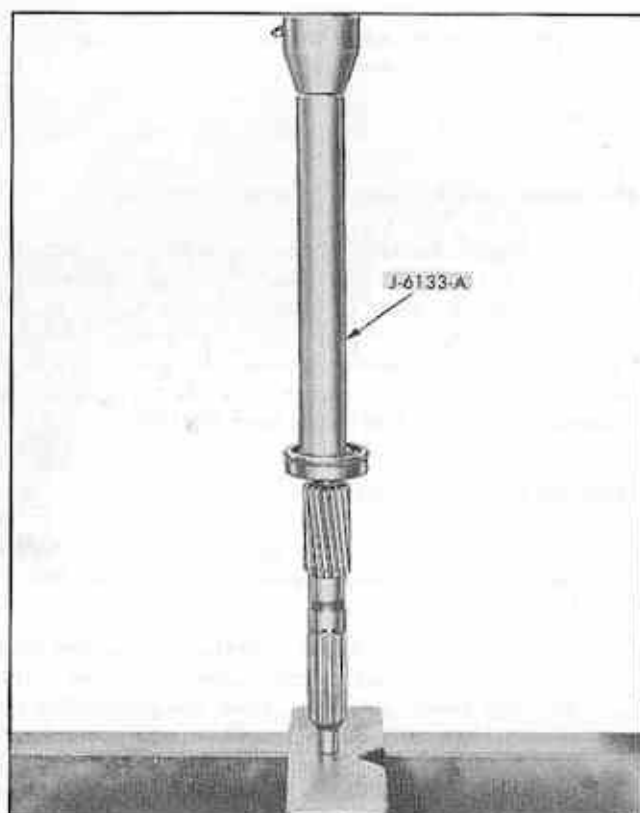

Fig. 35 Pressing Rear Bearing on Shaft
4. To assemble new bearing to shaft press on inner race of bearing using tool J-6133-A as shown in Fig. 35. Bearing should be against shoulder on shaft.